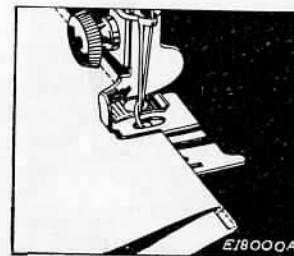

Fig. 60. Making a French Seam (Second Operation)
2. Fold both right sides together and insert back of seam in slot 1, as shown in **Fig. 60**, and stitch, allowing just enough margin to conceal raw edges.